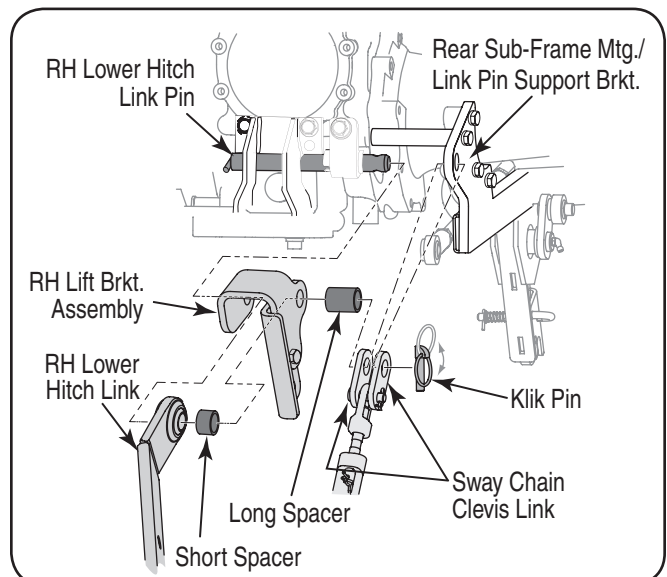

Figure 7
- Hold the RH lift bracket assembly (13) so that its shorter side is to the left (toward transmission housing) and pointing downward. Slide the shorter side of the lift bracket just onto the hitch link pin. See Figure 7.
- Pivot the forward end of the RH lower 3-point hitch link upward between the two sides of the lift bracket and align with the hitch link pin. Slide the hitch link pin to the right until just through the hitch link. Refer to Figure 7.
- Place the short spacer (.625" long) between the lower 3-point hitch link and the longer side of the lift bracket; then slide the hitch link pin to the right through the spacer and fully through the lift bracket. Refer to Figure 7.
- While continuing to slide the hitch link pin to the right, slide the long spacer (1.125" long) onto the pin. Refer to Figure 7.
- Lift the sway chain assembly and separate the two sway chain clevis links to position a link on the inside and outside of the rear sub-frame mtg./link pin support bracket. Align the holes of the clevis links with the hole in the mounting bracket; then slide the hitch link pin toward the right through the clevis links and mounting bracket. Refer to Figure 7.
- Fully insert the klik pin (removed earlier) into the hole of the RH lower hitch link pin, and pivot the klik pin ring over the end of the hitch link pin to lock in position. Refer to Figure 7.
- The LH lift bracket assembly (14) is installed in the same manner as the RH lift bracket assembly. Refer to Figure 7 and adapt the previous instructions to the left side of the tractor to install the LH lift bracket assembly.